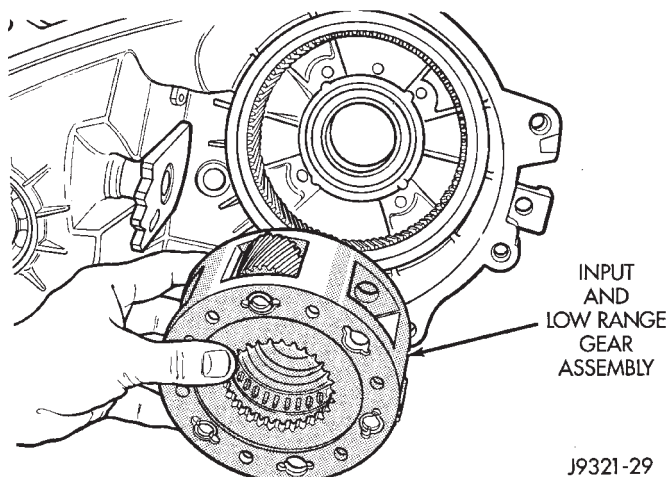

Fig. 44 Input And Low Range Gear Assembly Removal
(30) Remove input and low range gear assembly (Fig. 44).